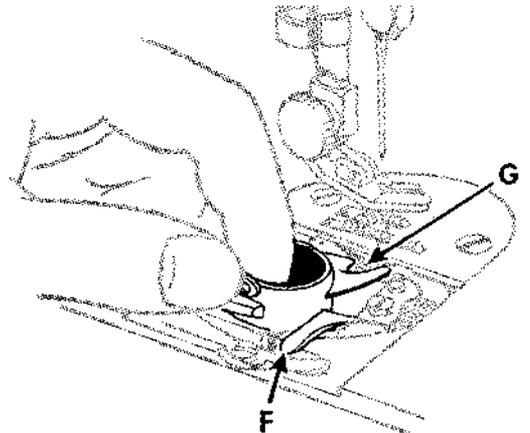

FIG. 55.
- Replace bobbin case with its fork straddling bracket G, Fig. 55.